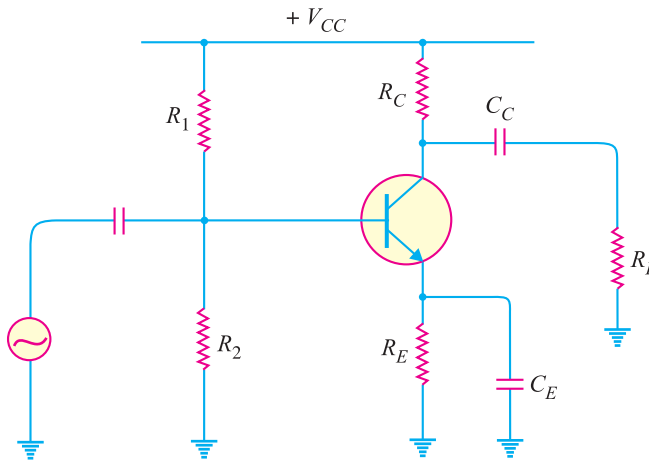

Fig. 10.46
3. Fig. 10.46 shows the transistor amplifier. If $R_C = 4 \text{ k}\Omega$, $R_E = 5 \text{ k}\Omega$ and $V_{CC} = 30 \text{ V}$, draw the d.c. load line.
4. Find the operating point for Fig. 10.46, $V_{CC} = 30 \text{ V}$, $R_1 = 20 \text{ k}\Omega$, $R_2 = 20 \text{ k}\Omega$, $R_C = 4 \text{ k}\Omega$, $R_E = 5 \text{ k}\Omega$. [13.2V, 1.85mA]
5. For the circuit shown in Fig. 10.46, find the voltage gain if $\beta = 100$, $R_C = 3 \text{ k}\Omega$, $R_L = 6 \text{ k}\Omega$ and $R_{in} = 2 \text{ k}\Omega$. [100]
6. In the circuit shown in Fig. 10.46, $V_{CC} = 30 \text{ V}$, $R_1 = 2 \text{ k}\Omega$, $R_2 = 1 \text{ k}\Omega$, $R_C = 2 \text{ k}\Omega$, $R_L = 2 \text{ k}\Omega$, $R_E = 1 \text{ k}\Omega$. Draw the d.c. and a.c. load lines.